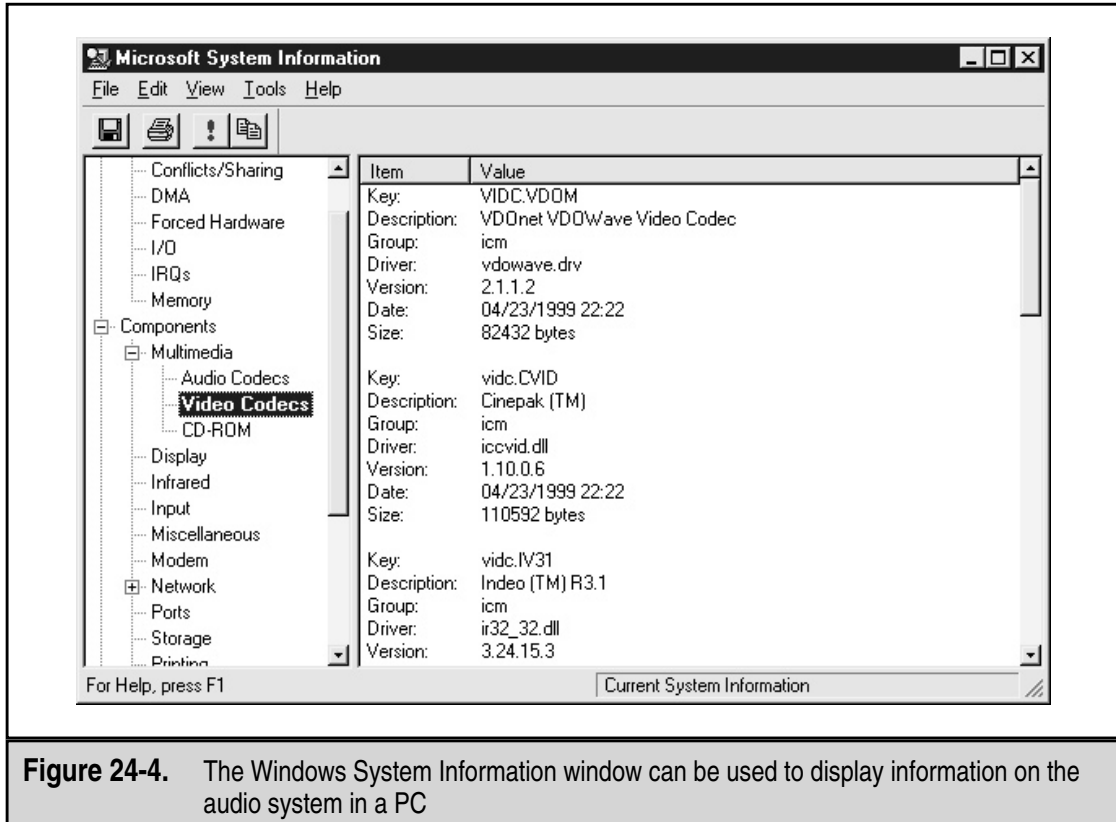

Figure 24-4. The Windows System Information window can be used to display information on the audio system in a PC
- ▼ **Resource conflicts** Use the Windows System Information applet (see Figure 24-4) from the Accessories | Systems Tools menu to determine if there are any resource conflicts (IRQ, DMA, or I/O address) between the sound card and other devices. If a conflict exists, reassign the conflicting device or the sound card. The most common conflict is an IRQ.